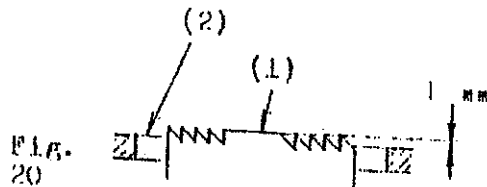

FIG. 20
The feed dog(1) must protrude its teeth 1mm from the needle plate surface(2) when it has come up to the highest point of its travel. (Fig.20)